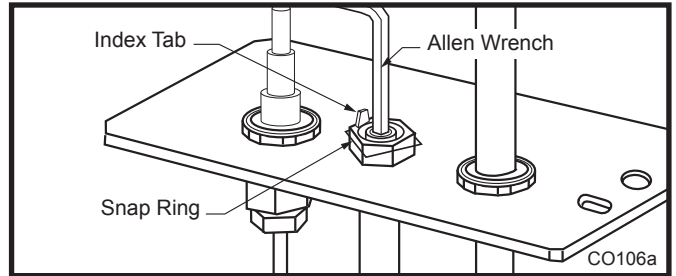

Fig. 58 Remove pilot orifice.
- Remove pilot orifice with Allen wrench. (Fig. 58)